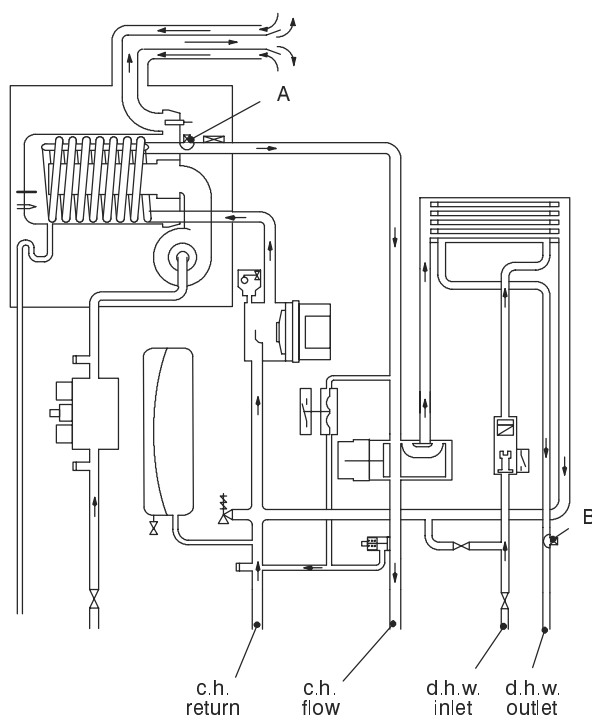
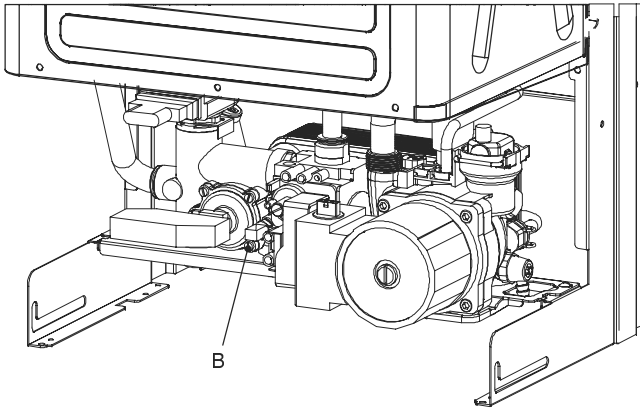

Fig. 15.2
Fig. 15.4
On the boiler there are two Temperature probes. One on the output of the primary condensing heat exchanger (c.h. Temperature probe) A in Fig. 15.2 and Fig. 15.4; one on the output of the d.h.w. heat exchanger (d.h.w. Temperature probe) B in Fig. 15.2 and Fig. 15.4.
- 3 Remove the electric connector and unscrew the d.h.w. Temperature probe (Fig. 15.4).